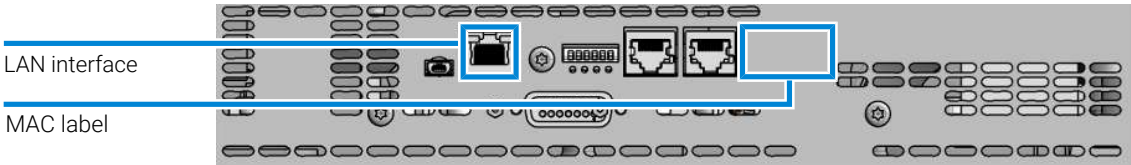
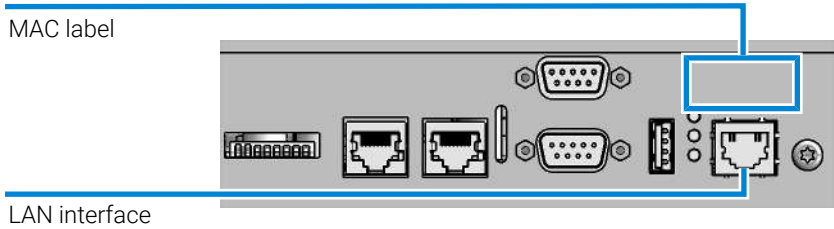

Figure 81: Location of LAN interfaces and MAC label (board with 6-bit configuration switch)
Figure 82: Location of LAN interfaces and MAC label (board with 8-bit configuration switch)
- 1 Note the MAC (Media Access Control) address for further reference. The MAC or hardware address of the LAN interfaces is a world wide unique identifier. No other network device will have the same hardware address. The MAC address can be found on a label at the rear of the module (see Figure 81 on page 452, or Figure 82 on page 452).